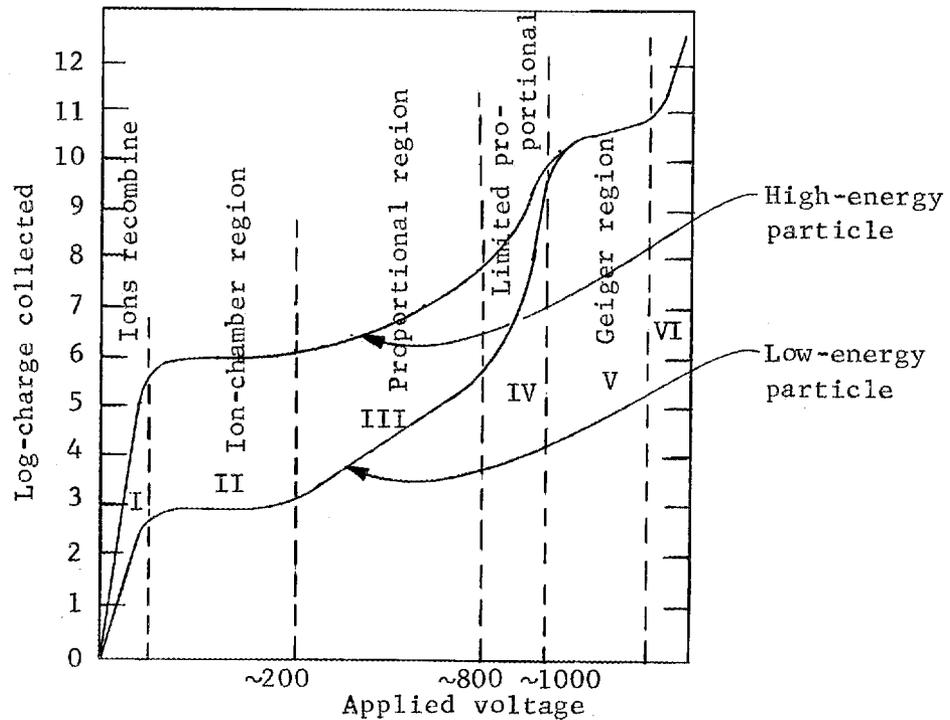

Fig. V-42. Variation of Charge Collected Versus Applied Voltage for Particles of Two Energy Levels
16. At low applied voltages, the positive ions will move so slowly that most of them will be able to recombine with electrons before they reach the electrodes, see Region I in Figure V-42. positively,
20. After the applied voltage is just high enough to essentially all cause all the ions to reach the electrodes, the voltage can be further increased to about 200 volts (Figure V-42) without any increase in ion current. (Ion current is the current through the ionization chamber due to ion movement.) This voltage "region" is called the "ionization-chamber region".
28. In Region III of the curve (Figure V-42) the ions produced by the radiation move toward the electrodes with such speed that when they hit other gas particles they produce _____ ionization.
32. As the applied voltage is increased further to about voltage 1000 volts (Figure V-42) the avalanches have increased until the chamber volume becomes filled with ions each time a ray (photon) or particle of radiation enters the _____. This Region V is called the "Geiger" region.
34. The term "ionization chamber" is generally used to primary refer to those chambers operating in the ion-chamber region of Figure V-42. Chambers operating in the Geiger region are called "Geiger-Mueller tubes" or simply "G-M tubes".